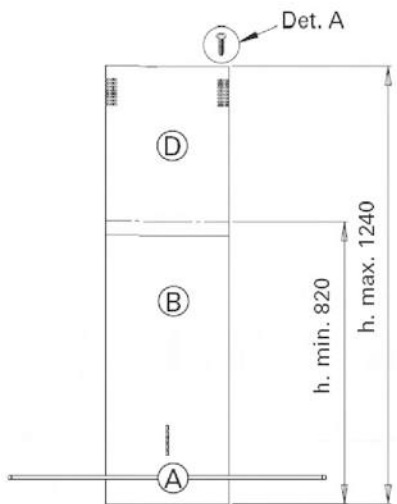

Fig. 1B/Abb. 1B
- 1) Remove the screw that holds the extension to the internal frame work (only for transport) (Fig. 1B, Det. A).
- 3) Identify the height (65-70 cm) required for the positioning of the range hood (Fig. 1B).
- 3) Individuare l'altezza desiderata tra cappa e piano cottura (65-70 cm) (Fig.1B).